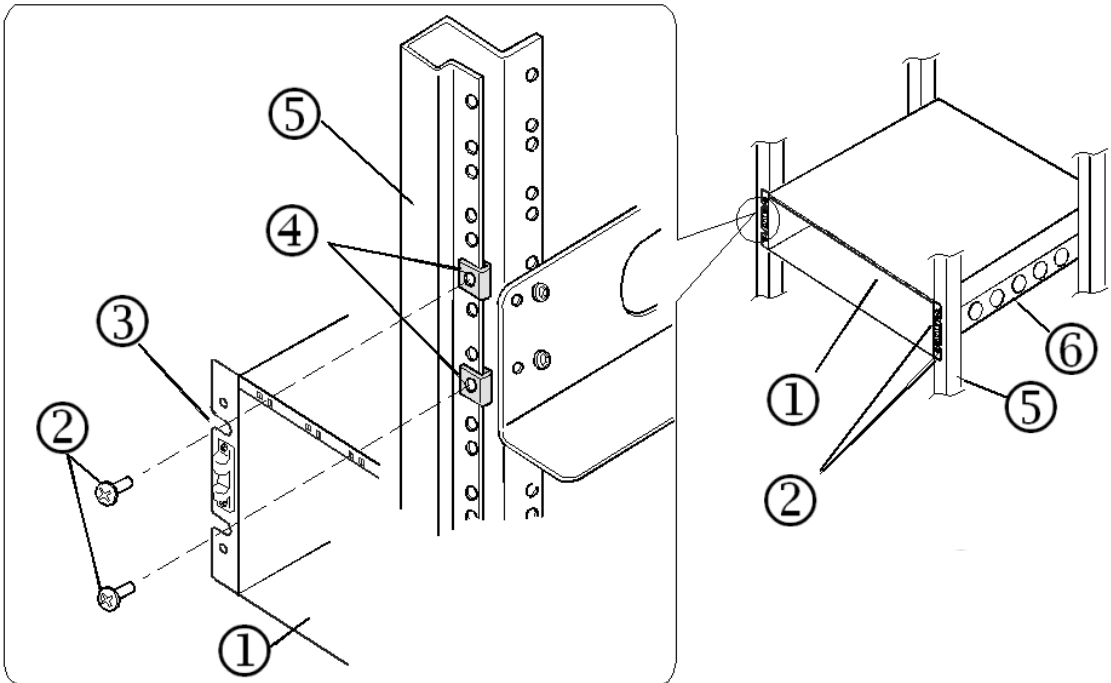

Figure 5-29: Fastening Front Side of the Array
1. As shown in Figure 5-29, fasten the array to the rack rails with four M5×10 binding screws provided with the rack.